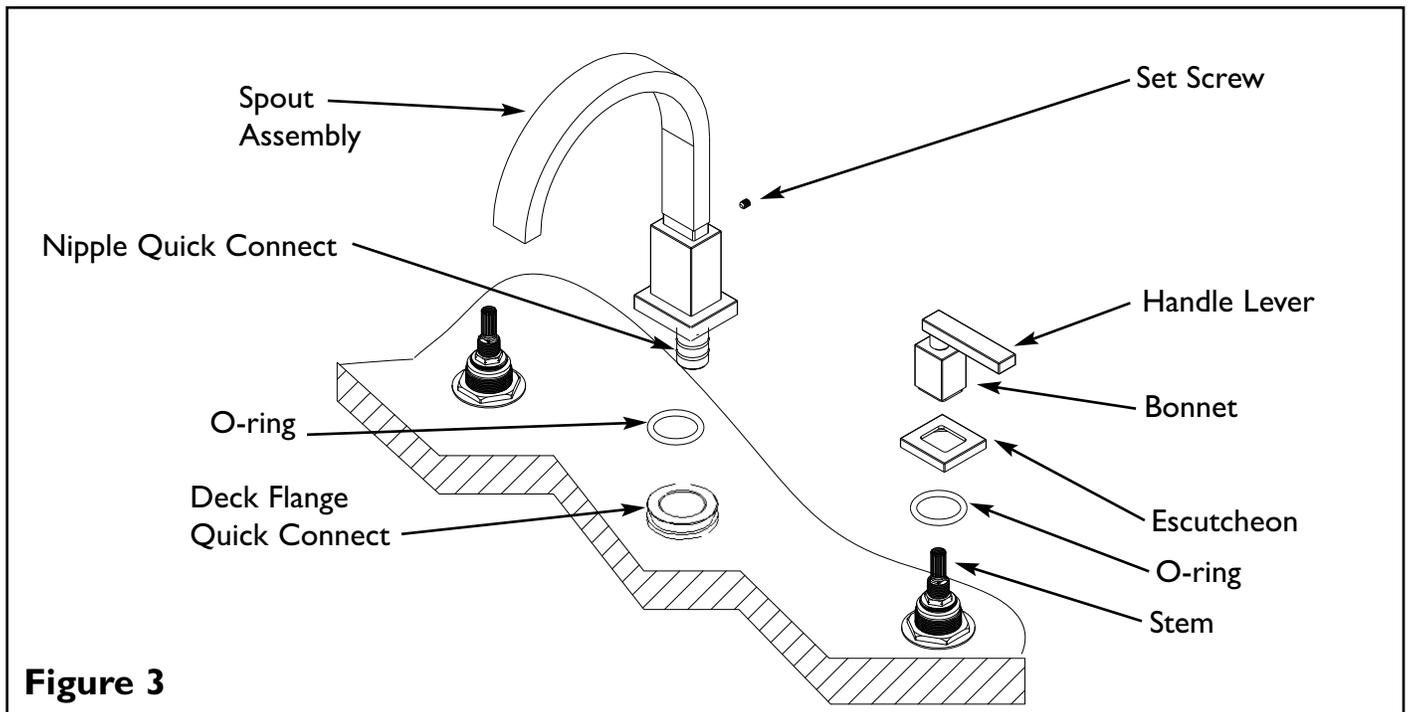

Figure 3
4. Place O-RING and ESCUTCHEON over VALVE STEM. Secure handle assembly into place by first engaging the VALVE STEM, then position and holding the handle LEVER while rotating the BONNET and ESCUTCHEON. Any adjustments for rotational alignment must be made to the valve body, not to the cartridge. See Fig. 3
5. Align and press spout assembly onto quick connect deck flange. Make sure spout is flush with deck. Secure spout onto quick connect with setscrew. See Fig. 3